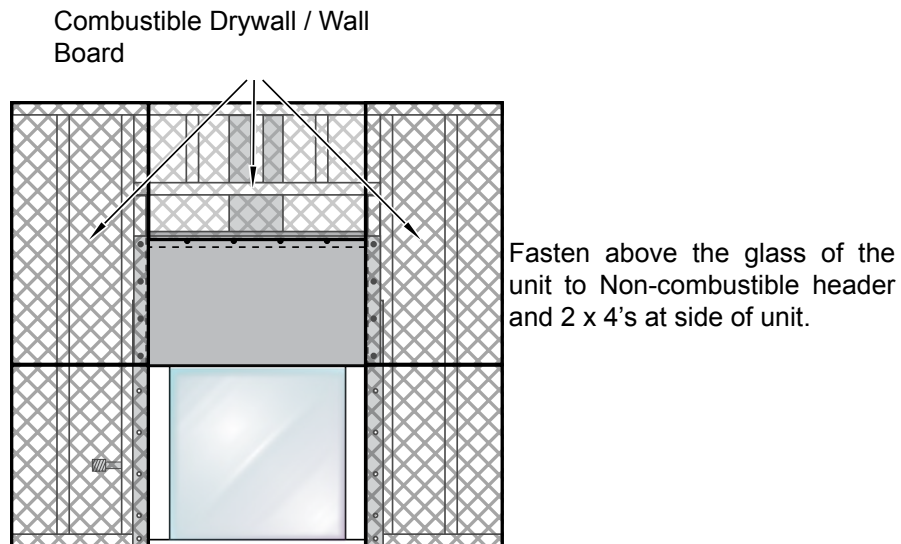

Figure 3a.
**Step 2.** As shown in figure 3a; Cut standard Drywall / Wall board to complete the installation of fireplace surround.